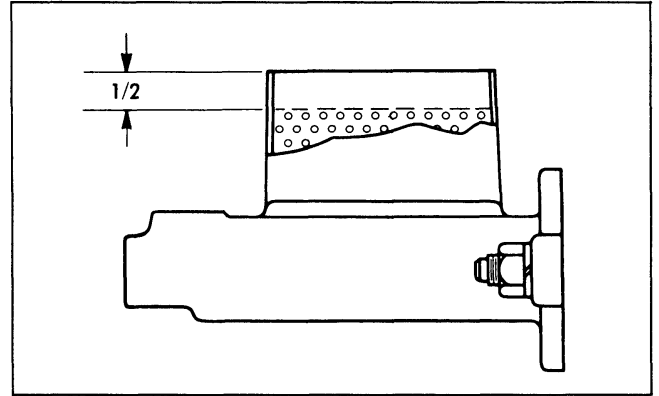

Fig. 5-14 Correct Fluid Level in Master Cylinder
20. Check fluid level in master cylinder. Fluid level should be $\frac{1}{2}$ " below the reservoir opening (Fig. 5-14).